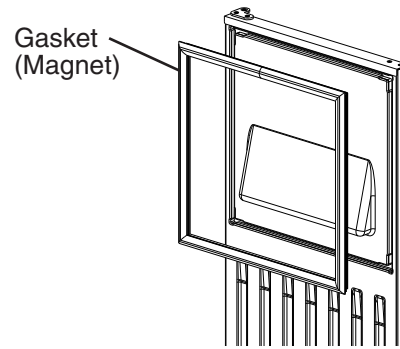

**Fig. 8**
- f) Remove hinge (C1) from the top right part of the door, flip it and reattach to the bottom left. Remove hinge (C2) from the bottom right part of the door, flip it and reattach to the top left. See Fig. 8. Proceed to step 7.